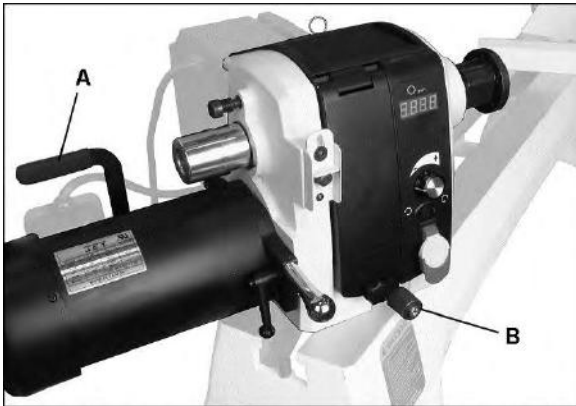

Fig 36
Loosen the headstock lock handle (A, Fig 36) and pull the index plunger (B) to turn the headstock.